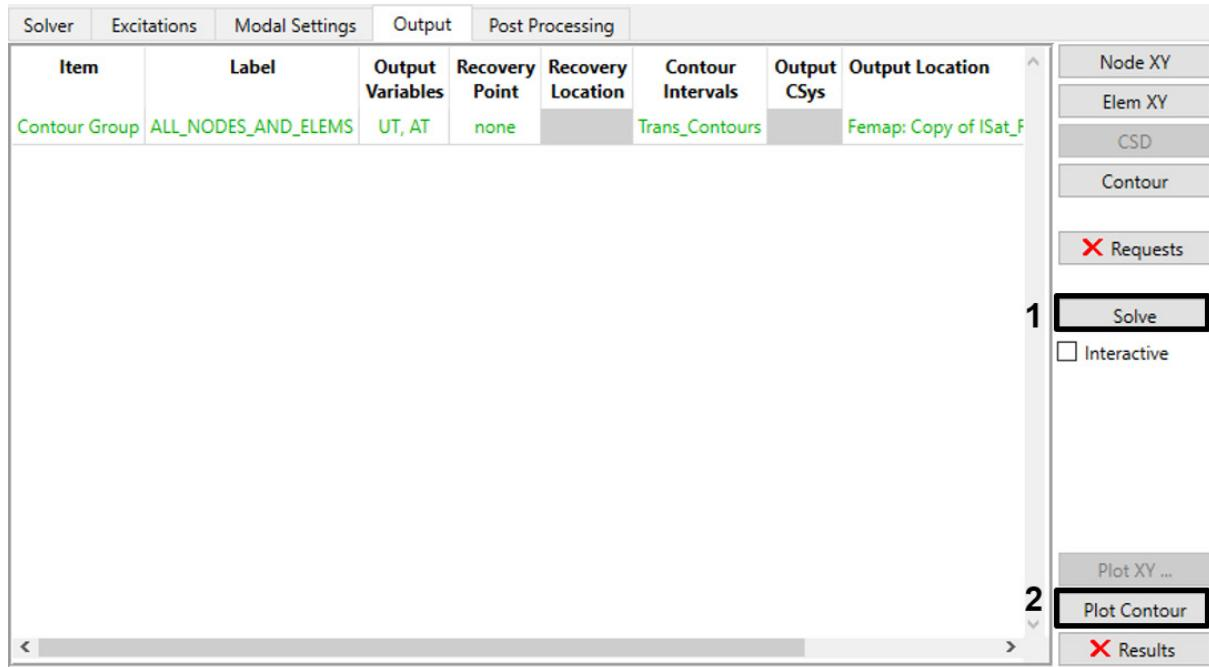
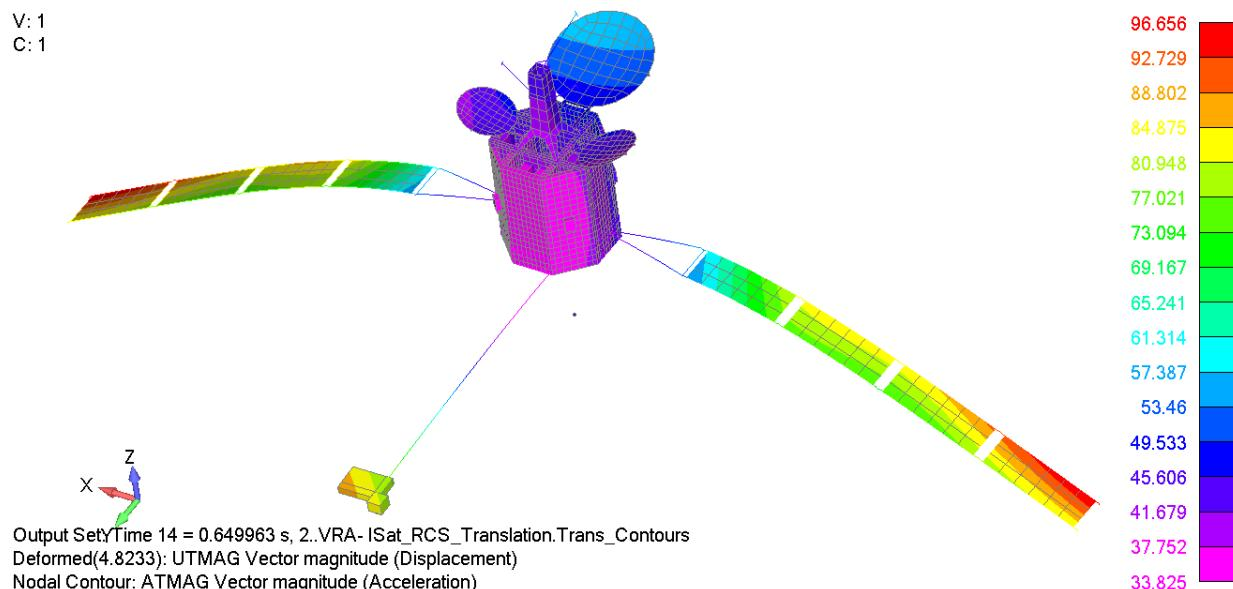

Figure 4-100. Solve for the requested contours and then plot them.
Figure 4-101. Contours of acceleration on deformed mesh for output frame 14.
8. On the Output tab again, click **Solve** to compute and store the requested contours (Figure 4-100). When the solver finishes, click **Plot Contour** to view the results in Femap. You can simply double-click in Femap's graphics window to start the animation. You can also do any of the usual postprocessing operations such as showing contours of total acceleration on a deformed mesh for a specific time step, as in Figure 4-101.